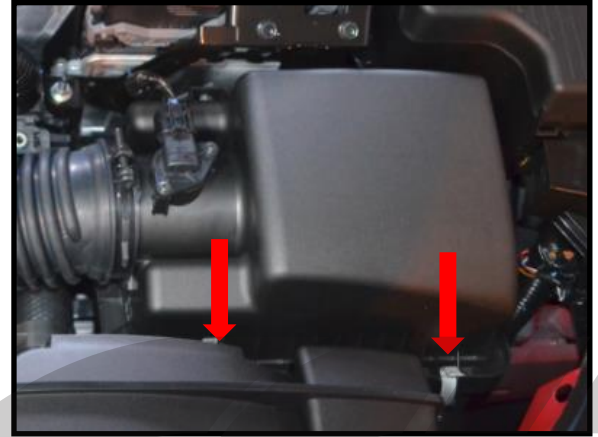

Figure 1e
- e) **Remove Air Box Bracket** (red arrows Figure 1e). They will push off the top of the box but stay on the lower housing of the air box.